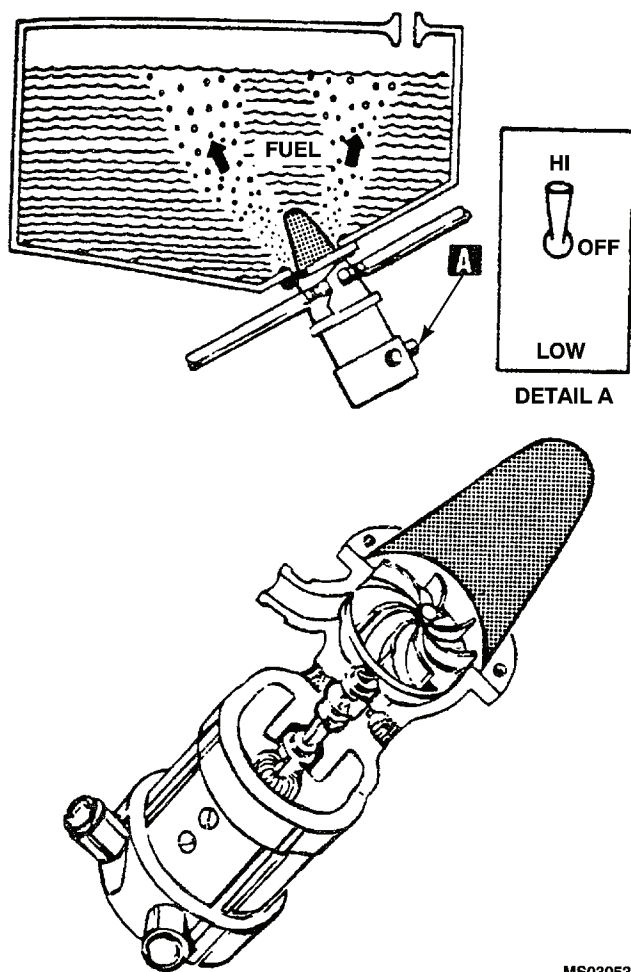

Figure 2-4. Auxiliary (Booster) Fuel Pump.
(1) Auxiliary. The auxiliary (booster) pump is mounted at the tank outlet within a detachable sump, or is submerged in fuel at the bottom of the tank. The auxiliary pump, as shown in figure 2-4, supplies fuel under pressure to the inlet of the engine-driven fuel pump. This type of pump is an essential part of the fuel system, particularly at high altitudes, to keep the pressure on the suction side of the engine-driven pump from becoming low enough to permit the fuel to boil. This booster pump is also used to transfer fuel from one tank to another, to